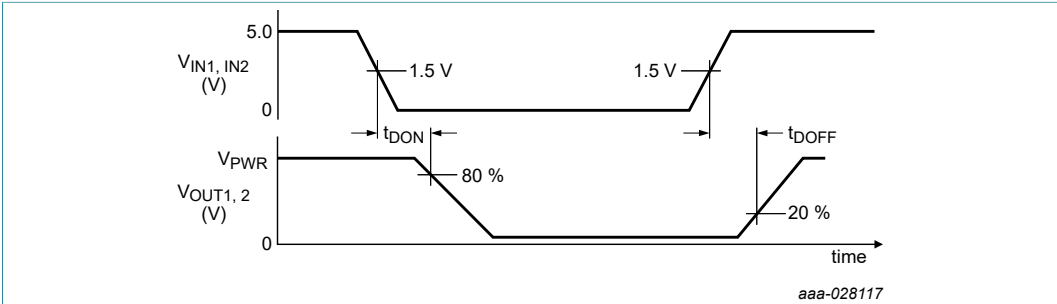

Figure 5. Output delay time
- [3] Output delay is the time duration from 1.5 V on the IN1 or IN2 input signal to the 20 % or 80 % point (dependent on the transition direction) of the OUT1 or OUT2 signal. If the output is transitioning high-to-low, the delay is from 1.5 V on the input signal to the 80 % point of the output response signal. If the output is transitioning low-to-high, the delay is from 1.5 V on the input signal to the 20 % point of the output response signal. See Figure 5.